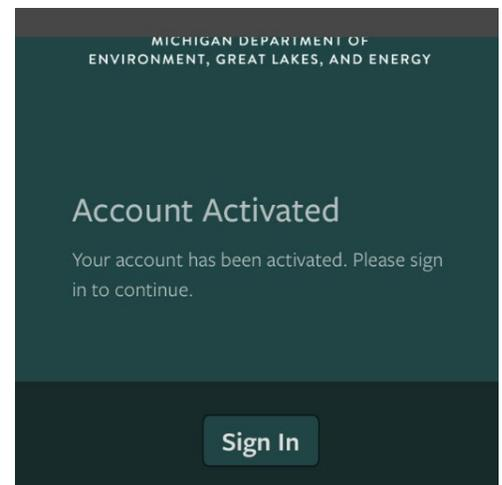

Figure 5-2 – Account Activated
- b. Click the link to activate your account. You will see a pop-up window that states "Account Activated." (Figure 5-2.)